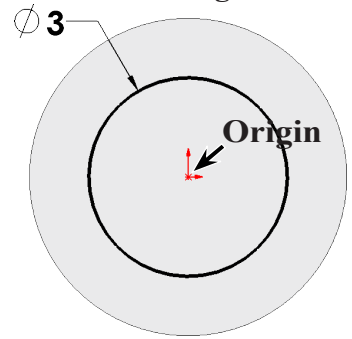

Fig. 6
Step 3. Click **Circle**  (S) on the Sketch toolbar.
Step 4. Sketch circle at Origin , **Fig. 6**.
Step 5. Click **Smart Dimension**  (S) on the Sketch toolbar.
Step 6. Dimension diameter 3, **Fig. 6**.